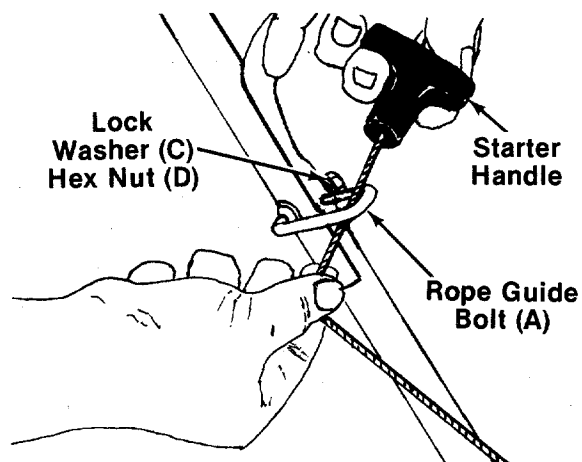

FIGURE 5.
6. Insert the rope guide bolt (A) through the right hand side of upper and lower handle.
8. Slip the starter rope into the rope guide bolt as shown in figure 5. If more slack is needed in the starter rope, disconnect and ground the spark plug wire. Depress the blade control handle and pull additional rope out from the engine.